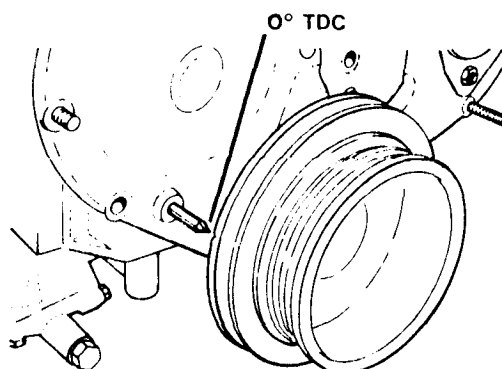

FIGURE 2
5. Turn the crankshaft the same direction as the engine rotates until the indicator pin points at 0° TDC. See Figure 2.